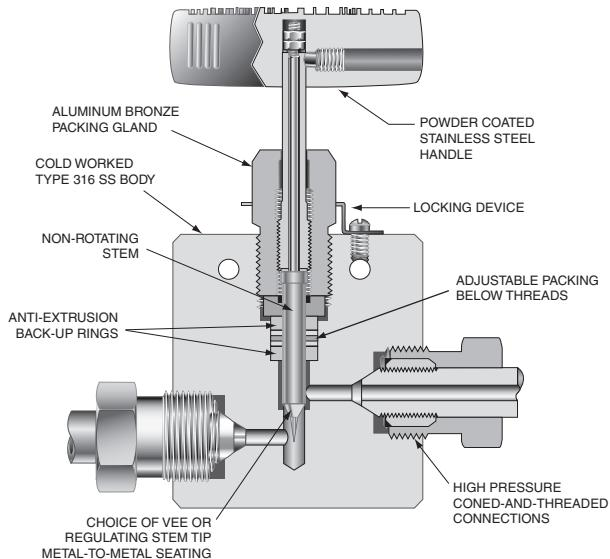
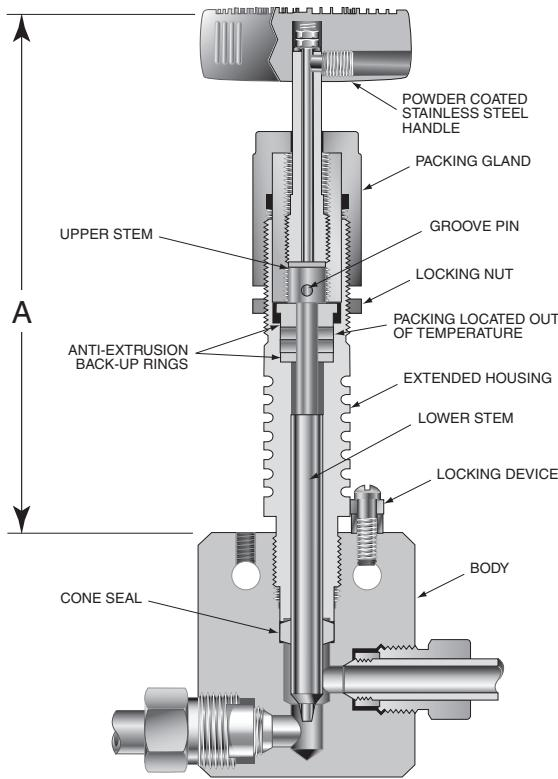
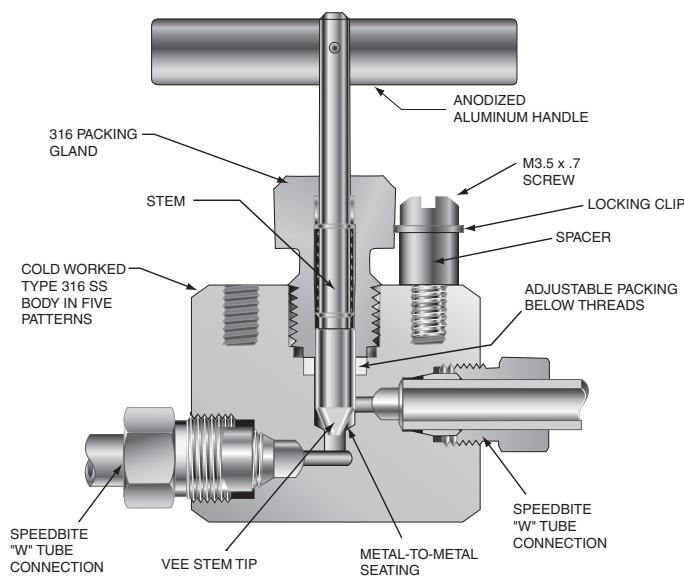

Figure 2: Typical Valve Assembly
Figure 4: Extended Housing Valve Assembly with Two Piece Pinned Non-Rotating Stem
Figure 5: One Piece Rotating Stem
- Autoclave Engineers manual valves have three different type of stems; one piece non-rotating (figure 2), two piece pinned non-rotating (figure 4) and rotating (figure 5). Follow steps 6-9 for one piece non-rotating stems, steps 10-11 for two piece pinned non-rotating stems and step 12 for rotating stems.